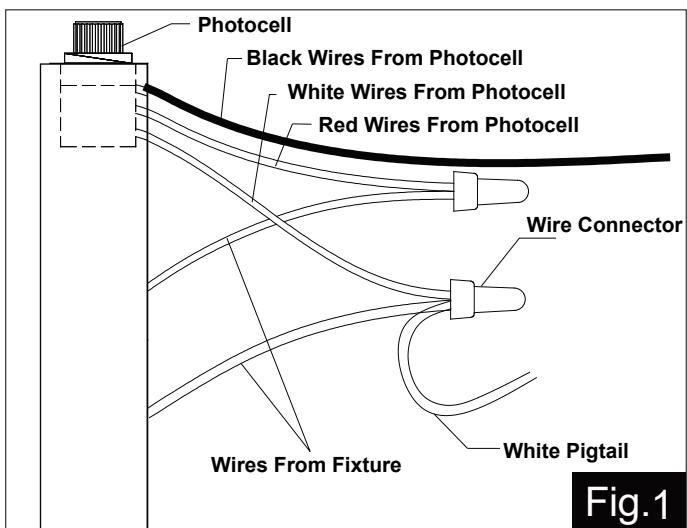

Fig.1
2. Loosen the wire connectors connected with the wires from photocell. (See Fig.1)